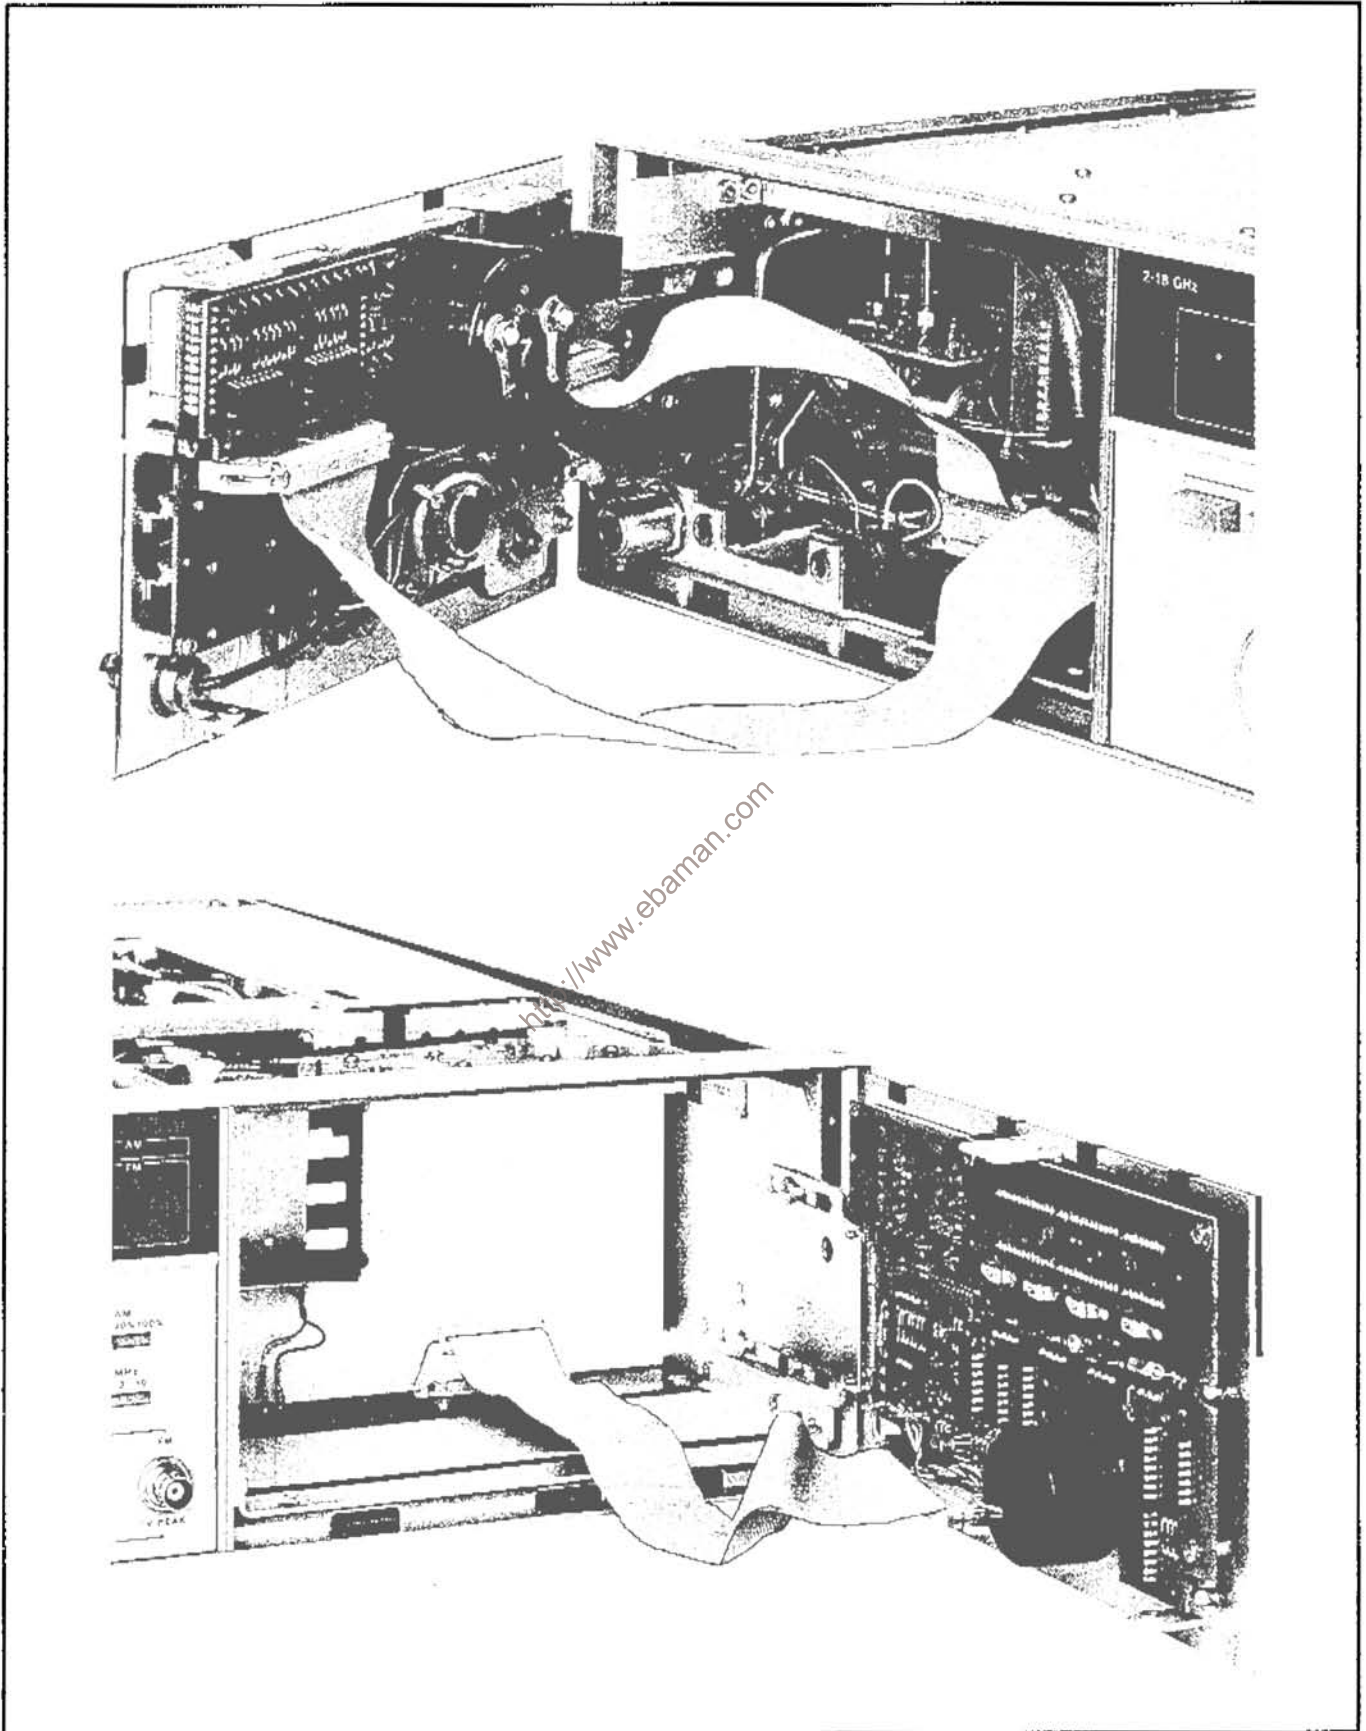

Figure 8-3. A1 and A2 Assembly Front Panel Fully Extended
- g. Carefully, pull the front panel outward to clear the front frame (see Figure 8-3).